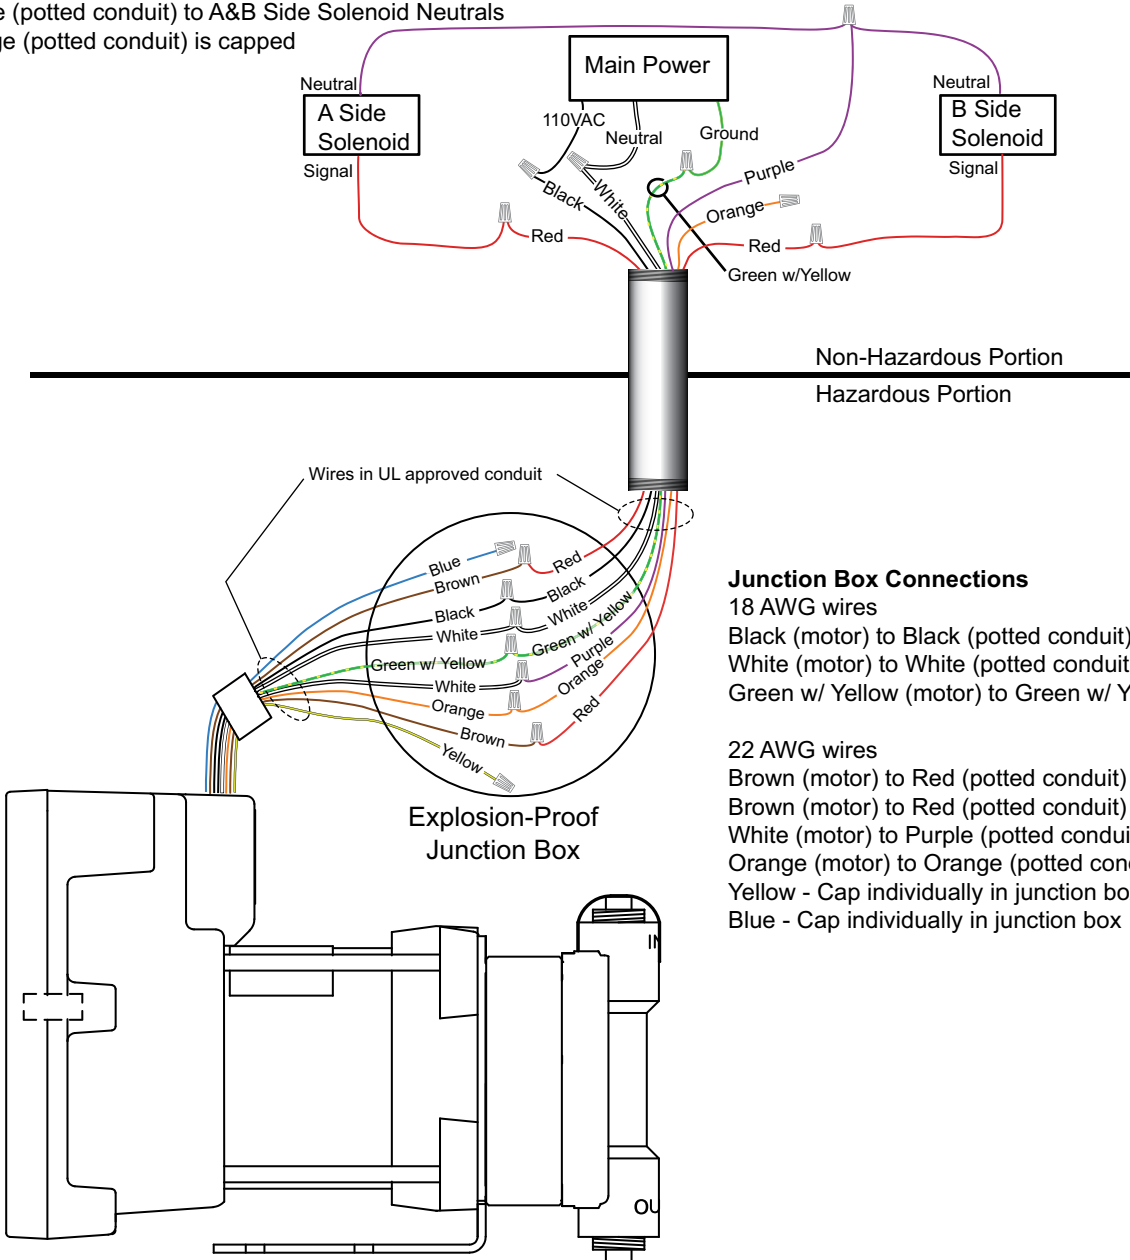

Figure 11: Potted Conduit Connections
2. After the electrical conduit connections are completed and the wiring has been pulled into and through the explosion proof junction box the excess wire can be measured and cut. The length of the wires should allow for stripping and a wire nut connection for each wire (approximately 6” or 15.24 cm). Refer to Figure 11 (Junction Box Connections) for connections from bottom portion of the potted conduit and VP1000-5-IC wires at the explosion proof junction box.
4. Locate the dispenser wire harness that carries the signals from the solenoid valve control to the individual solenoid valves on each side of the dispenser. Refer to Figure 11 (Connection to Electronics).